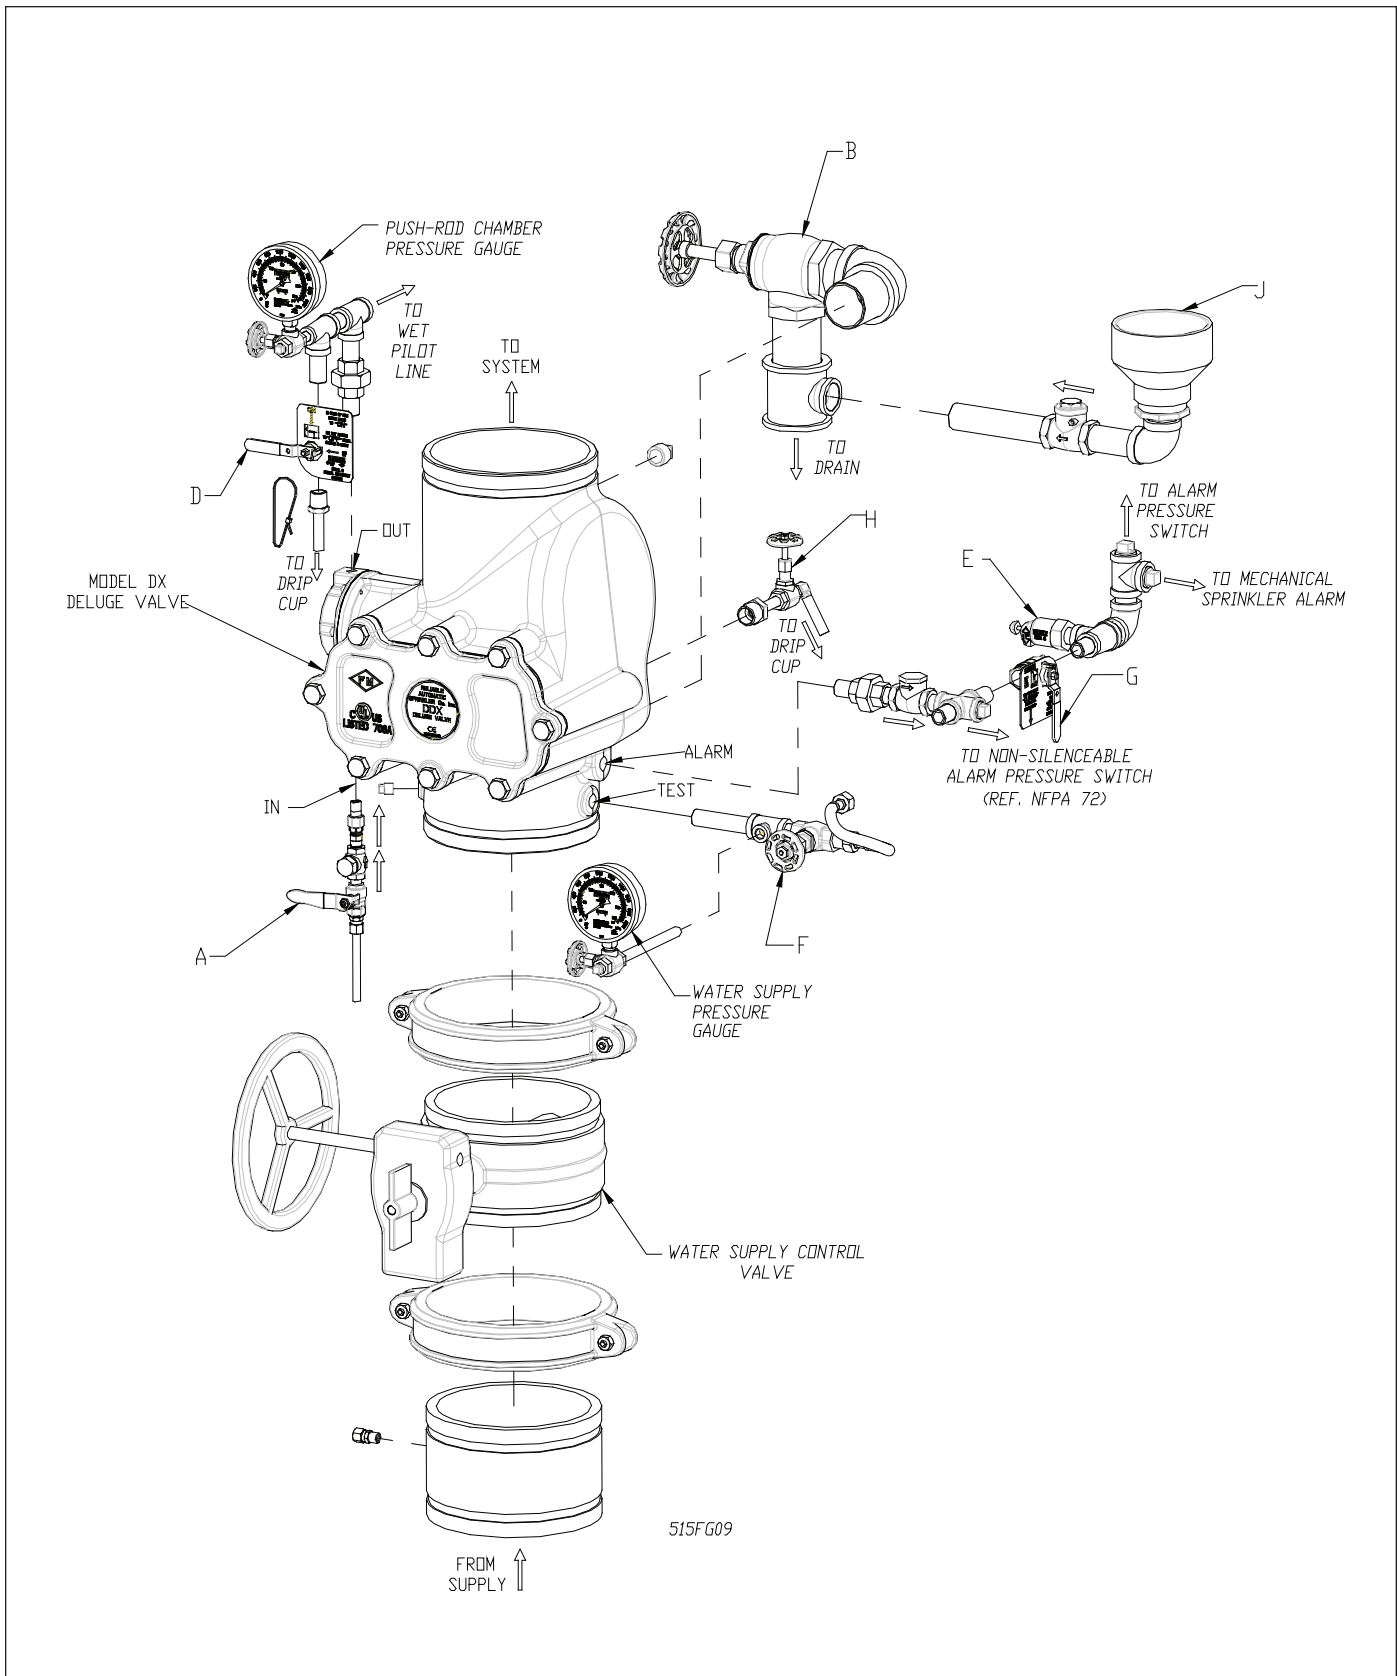

Fig. 9
2. **Alarm line** — be sure that valve G (Fig. 9) is opened and remains in this position.
3. **Other trimming valves** — check that valve A (Fig. 9) is open, as well as all of the pressure gauge's 1/4" 3-way valves. Valves D, F, & H (Fig. 9) should be closed.
4. **Ball drip valve E (Fig. 9)** — Make sure valve G (Fig. 9) is open. Push in on the plunger to be sure ball check is off its seat. If no water appears, the Deluge Valve's water seat is tight. Inspect the bleed hole (see Fig. 8) on the underside of the push rod chamber for leakage.
7. **Testing alarms** — Make sure valve G (Fig. 9) is open. Open valve F (Fig. 9) permitting water from the supply to flow to the electric sprinkler alarm switch and to the mechanical sprinkler alarm (water motor). After testing, close this valve securely. Push in on the plunger of ball drip valve E (Fig. 9) until all of the water has drained from the alarm line.
8. **Operation test** — Open the Model B Manual Emergency Station, valve D (Fig. 9).
9. Secure the Model B Manual Emergency Station, valve D (Fig. 9), in the OFF position with nylon tie after Deluge Valve is reset.
1. Close the valve controlling water supply to Deluge Valve and open the main drain valve B (Fig. 9).
2. Verify that valve A (Fig. 9) is open, allowing water to enter the push rod chamber.
- A. Wet Pilot Trim—open Model B Manual Emergency Station, valve D (Fig. 9).
Refer to Fig. 9
2. Leakage out of the ball drip valve E (Fig. 9).
b. Leakage, air or water from the ball drip valve, E (Fig. 9):
A) Shut down the valve controlling the water supply to the Deluge Valve and open the 2” main drain valve B (Fig. 9). Open the water column drain valve H (Fig. 9). Close the pushrod chamber supply valve A (Fig. 9) and open the Model B
Manual Emergency Station, valve D (Fig. 9).
- Shut down the valve controlling water supply to the Deluge Valve. Relieve the inlet pressure by opening the 2" drain valve B (Fig. 9). Close the valve A (Fig. 9) that supplies water to the push rod chamber, and open the Model B Manual Emergency Station, valve D (Fig. 9).